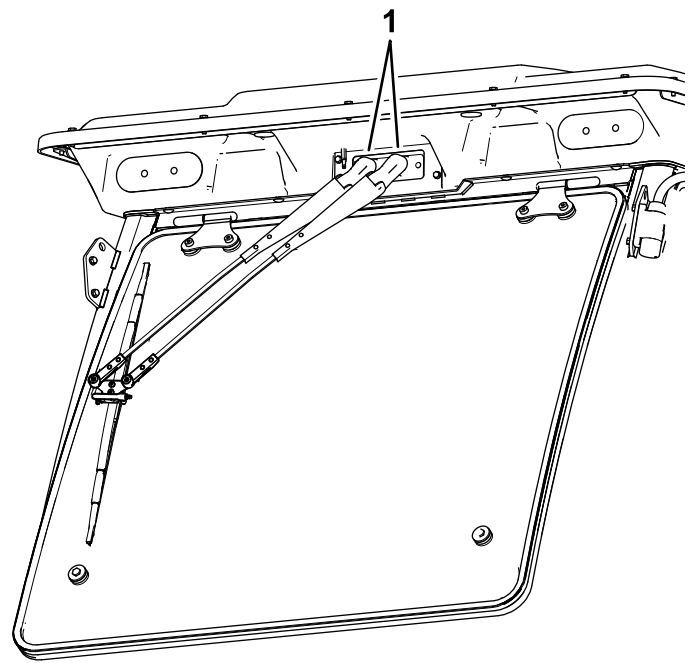

Figure 82
1. Open the caps at the top of the wiper arms (Figure 82).